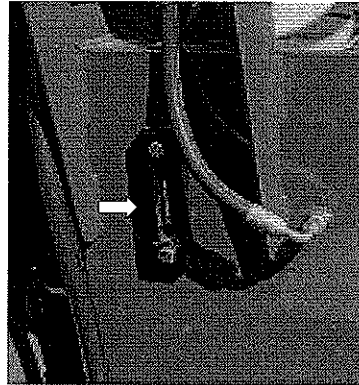

figure 11
1. Fill the tank to the High line on the sight gauge (figure 11). Use ISO VG-46 oil.